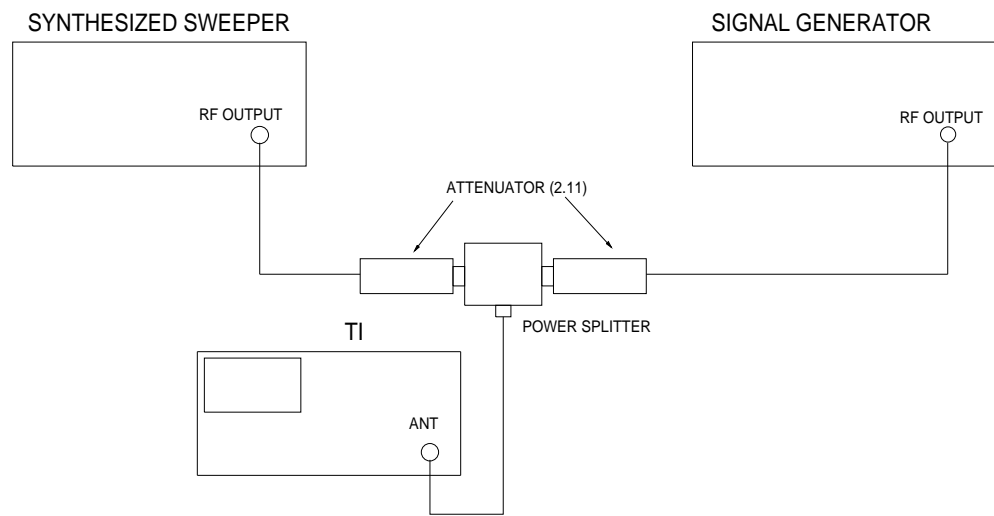

Figure 2.
4.14.2 Connect equipment as shown in Figure 2.